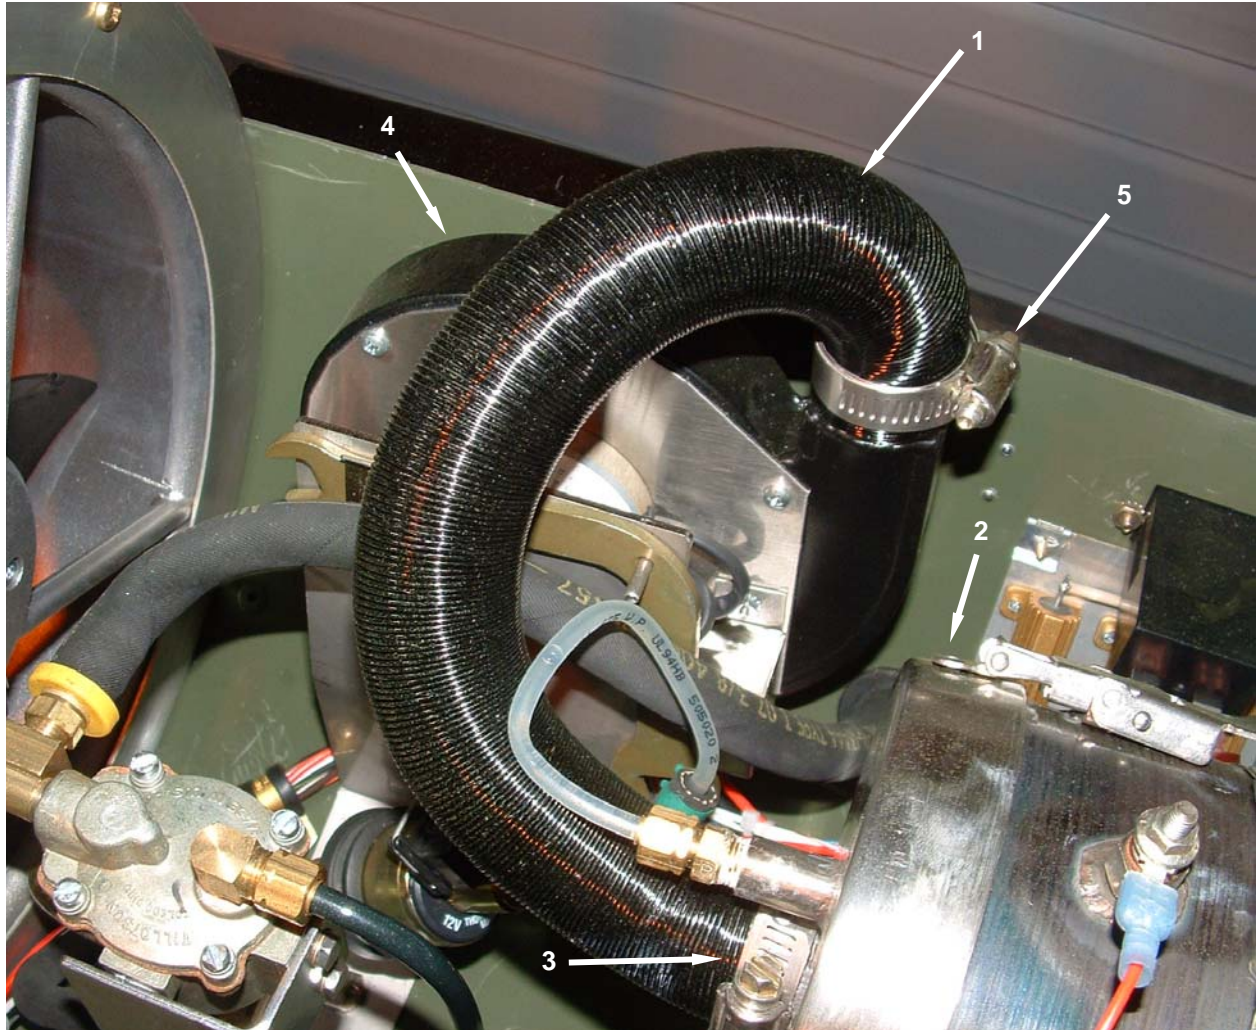

Figure 1. Combustion Air Blower Hose.
1. Disconnect the combustion air blower hose (**Figure 1, Item 1**) from the burner assembly (**Figure 1, Item 2**) by first loosening the hose clamp (**Figure 1, Item 3**) and sliding it onto the hose (**Figure 1, Item 1**).
2. Pull the end of the hose (**Figure 1, Item 1**) from the burner assembly (**Figure 1, Item 2**).
3. Disconnect the end of the combustion air blower hose (**Figure 1, Item 1**) connected to the combustion air blower assembly outlet (**Figure 1, Item 4**) by loosening the hose clamp (**Figure 1, Item 5**) and sliding it onto the hose (**Figure 1, Item 1**).
4. Remove the combustion air blower hose (**Figure 1, Item 1**) from the heater.
5. To install the combustion air blower hose (**Figure 1, Item 1**), connect the combustion air blower hose to the burner assembly (**Figure 1, Item 2**) by sliding it onto the hose inlet on the burner assembly (**Figure 1, Item 2**). Tighten the hose clamp (**Figure 1, Item 3**).
6. Slide the end of the combustion air blower hose onto the combustion air blower assembly outlet (**Figure 1, Item 4**). Slide the hose clamp (**Figure 1, Item 5**) into position and tighten.